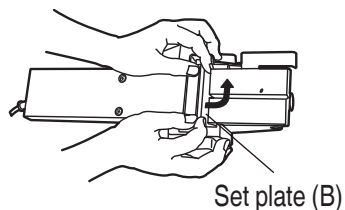
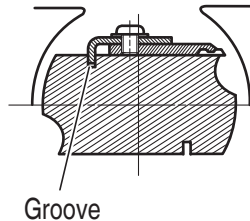

Fig. 10
Fig. 14
- (2) As shown in **Fig. 10**, after removing the carbide blade, slide set plate (B) in the direction indicated by the arrow to disassemble set plate (B).
- (3) Loosen the 2 screws holding on the carbide blade and set plate (A), set plate (B).
- (1) Insert a turned portion of set plate (A) attached to the blade into a groove on the flat portion of the cutter block. (**Fig. 10 on page 19** and **Fig. 14**)